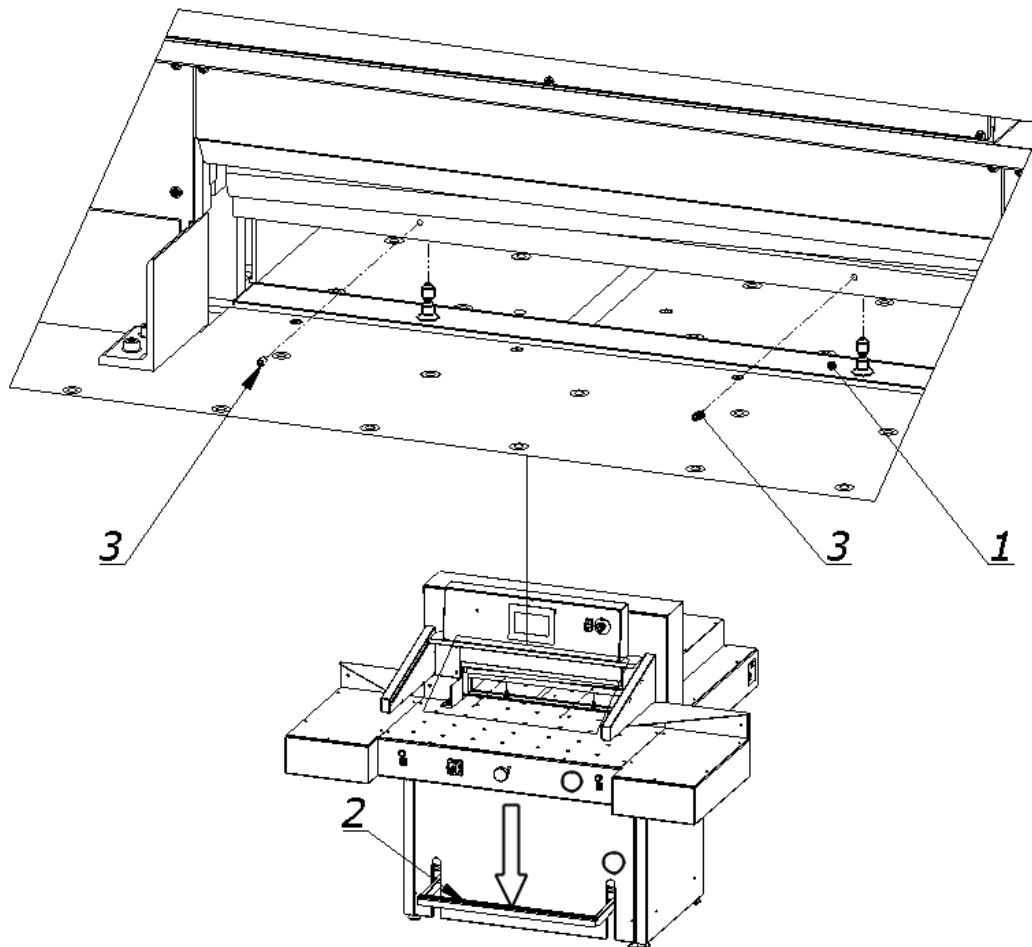

Figure 41 Operating elements used when mounting the insert into the pressure bar
8.3.1 Place the insert 1 (Fig. 41) under the pressure beam so that the insert pins are under the holes in the pressure beam.
8.3.2 Pressing pedal 2 (Fig. 41), bring the pressure beam down so that the insert pins hit the holes in the beam and the insert adheres the entire surface to the bottom surface of the beam.
8.3.3 Use a 3-mm hexagonal key with 3 mm to firmly screw in the screws 3 (Fig. 41) in the threaded holes in the clamping beam, causing the insert to be blocked in the clamping beam.
8.3.4 Release the pressure on the pedal 2 (Fig. 41) - the beam with the inserted insert returns to the upper position